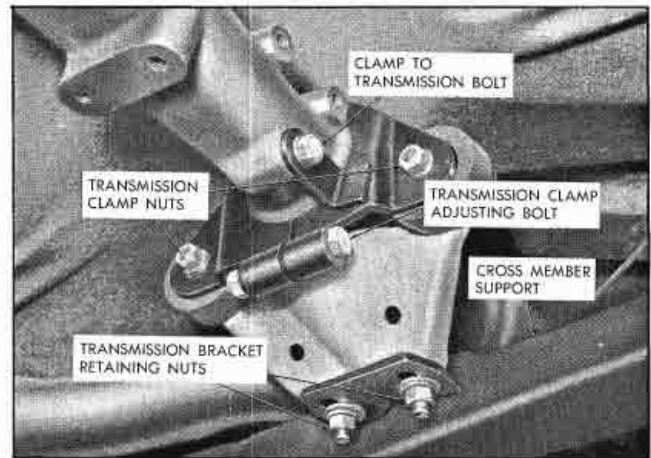

Fig. 7-55 Installing Rear Extension Mount
6. Install two transmission extension bracket to cross member retaining nuts. Tighten to 25-35 lb. ft. torque (Fig. 7-55).